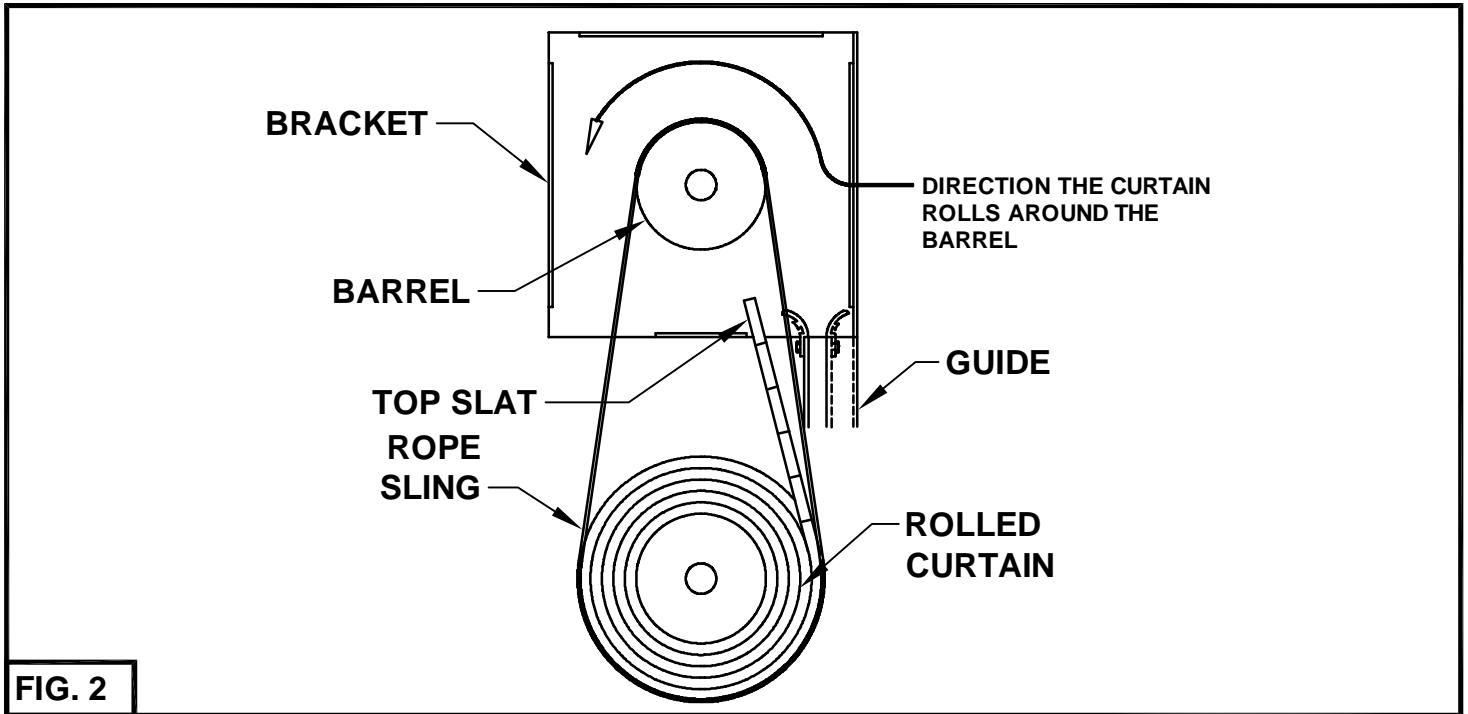

FIG. 2
- 1) With the curtain rolled up (as shipped from the factory) place it in slings below the barrel as shown below in Fig. 2. The slings may be made from soft cotton clothesline or other material that will not scratch the anodized finish.